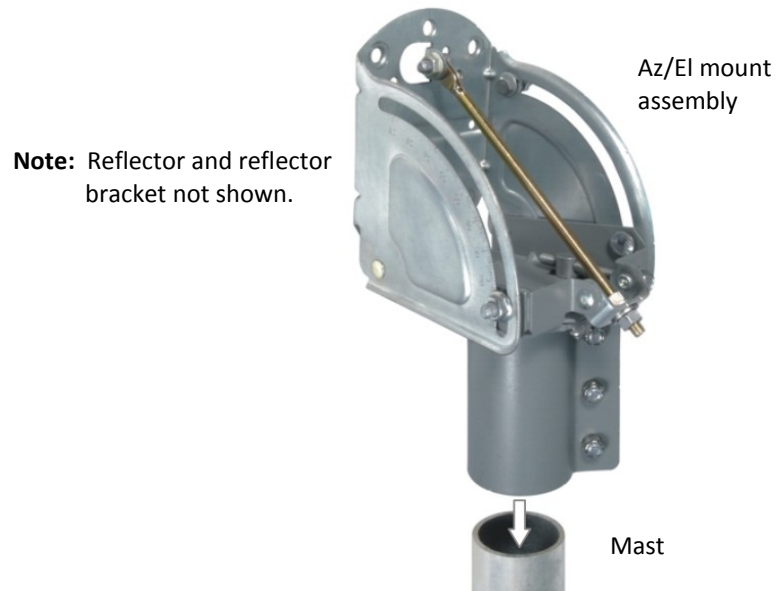

Figure 19: Installing the Az/EI mount assembly
2. Slide the antenna assembly down onto the mast so the Az/EI mount fits onto the mast as shown in Figure 19.